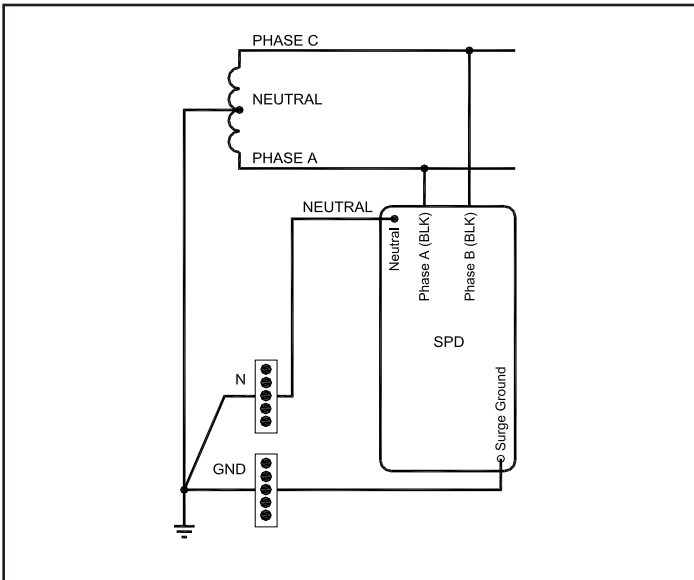

Figure 8. Split Phase Units
5. Select the correct wiring diagram for the SPD you are installing. You must refer to this diagram while wiring the SPD. See Figures 8, 9, 10, and 11 on page 7.